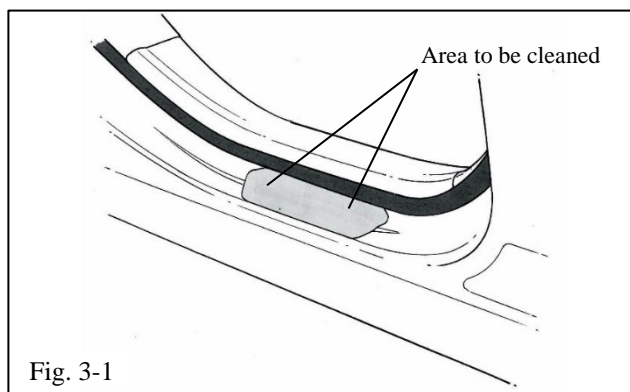

Fig. 3-1
- ⚠ (c) Clean and degrease rear door sill where protector is to be located with soap and water mixture (Fig. 3-1).